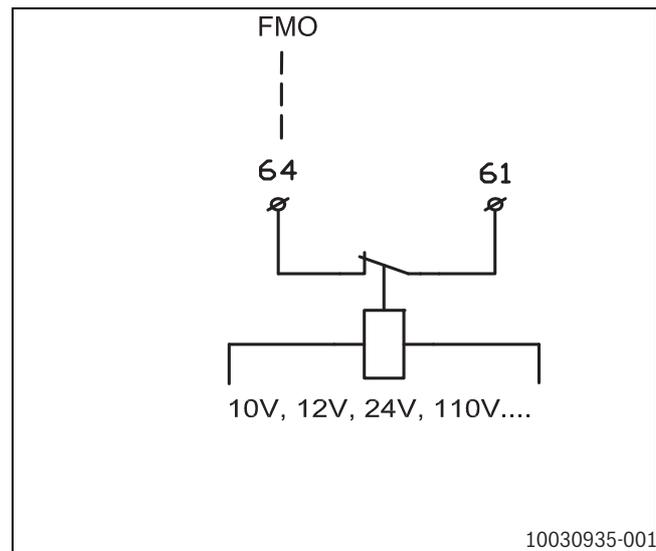

Fig. 30 Connection for external booster heater without 230 V alarm output
- ▶ Connect alarm signal as shown in figure 30 to the installer module at terminal **FMO**.